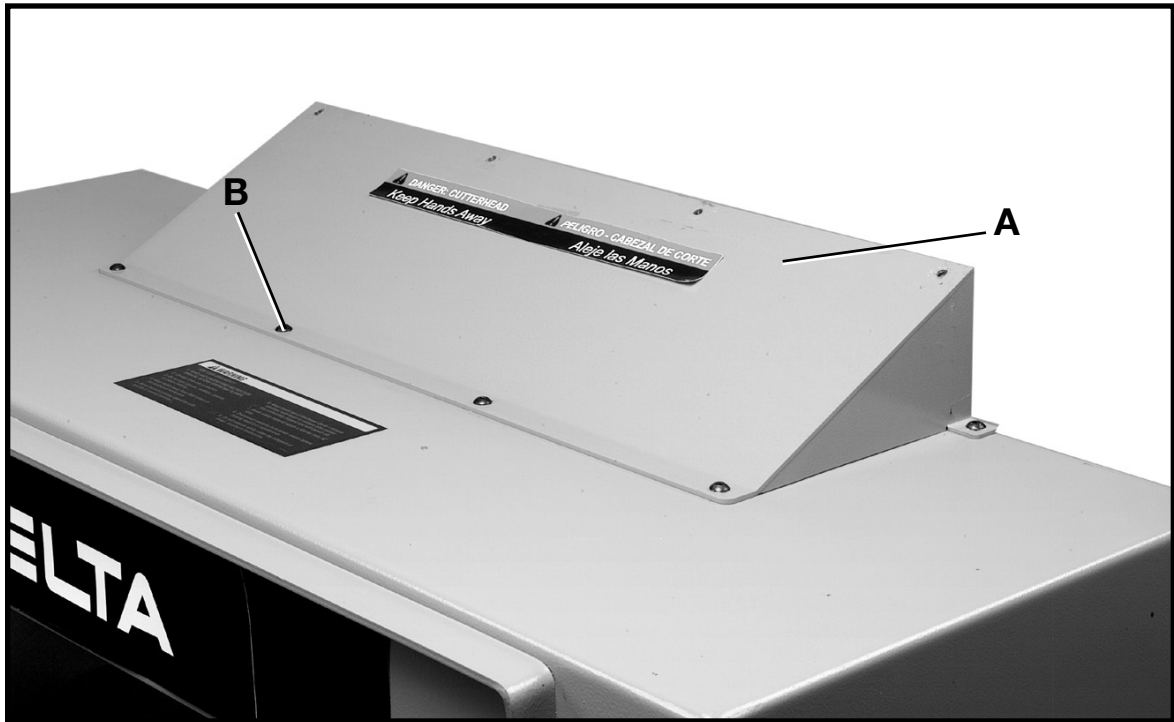

Fig. 7
Position cutterhead guard (A) Fig. 7, on top cover of machine. Align holes in cutterhead guard (A) Fig. 7, with holes in top cover and fasten with six 12mm button head screws (B) and flat washers, five of which are shown.